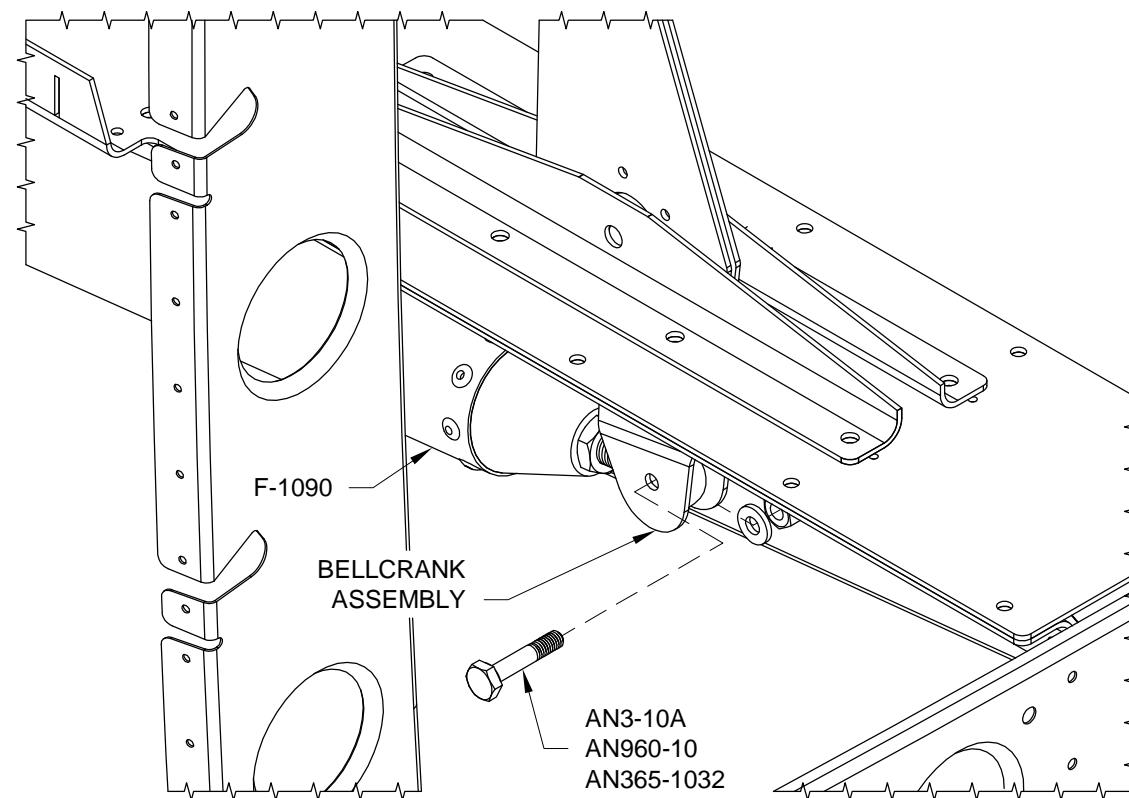

FIGURE 3: PUSHROD TO BELLCRANK ASSEMBLY
Step 4: Attach the F-1090 Elevator Pushrod Assembly to the Bellcrank Assembly using the hardware called out in Figure 3.